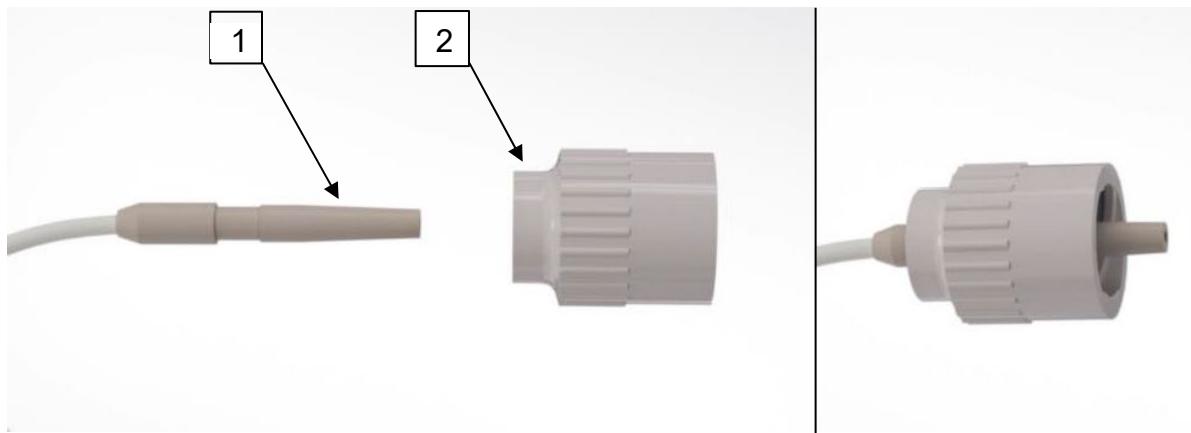

Figure 1: left: probeside-connector (1) and securing nut (2); right: finished connection
To connect the extension tube, a securing nut (see Figure 1, (2)) is pushed on the probeside-connector (see Figure 1, (1)). The securing nut contains two plates that allow the probeside-connector to snap securely in place inside the securing nut.